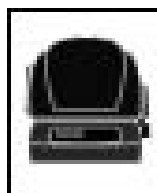

Fig. 31
- OPTIKA LIGHT and the key-cutting machine are connected with a serial cable with adapter (fig. 31) found in the OPTIONAL KIT.